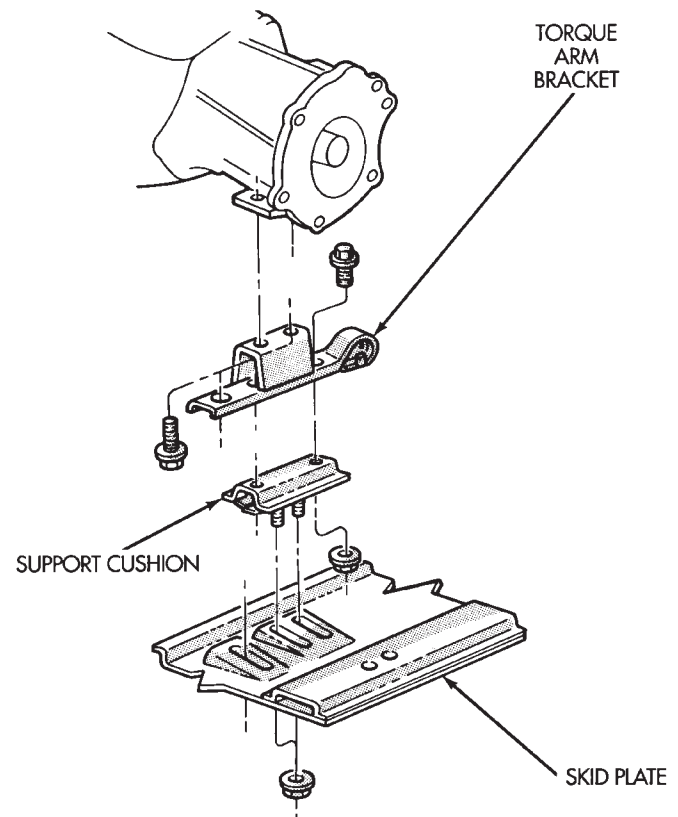

Fig. 13 Rear Mount—YJ Vehicles (Automatic Transmission)
- (6) **AUTOMATIC TRANSMISSION:**
- (a) Remove the bolts and nuts holding the support cushion to the torque arm bracket (Fig. 13). Remove the support cushion.
- (b) Remove the bolts holding the torque arm bracket to the transmission (Fig. 13). Remove the torque arm bracket.